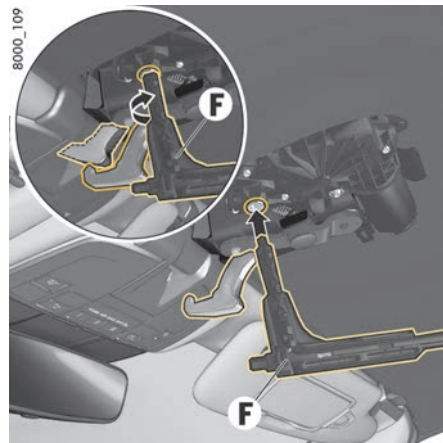

Fig. 67: Locking convertible top
5. To fully close the convertible top, turn the key **F** clockwise until the latching hook fully engages in the catch and the convertible top is completely closed (noticeable resistance when turning Fig. 67).